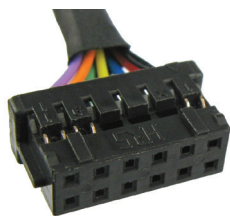

Fig. 2
- The mating harness is not included but may be specified at the time of order. Contact your APEM sales representative. This optional harness features a Hirose DF11-12DS-2C connector (female socket)(Fig. 2) to individual stripped and tinned wire leads.
MATING WIRE HARNESS COLOR DEFINITION (FIG 2)